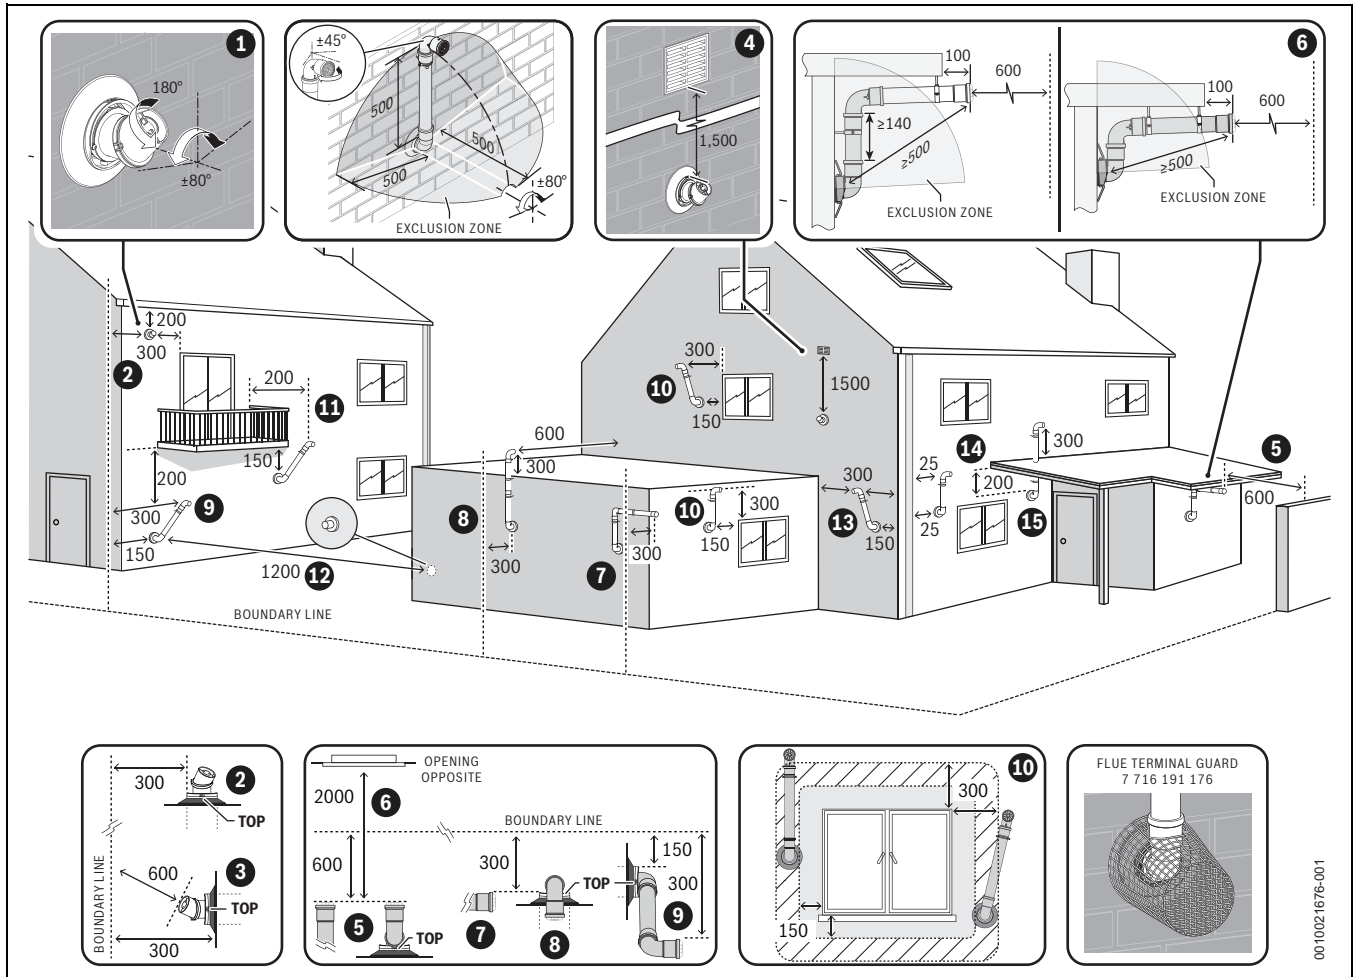

Fig. 27 Plume re-redirect and plume management terminal positions
- ▶ Refer to “Horizontal flue terminal positions” for all concentric flue terminal positions unless the flue position is specified in figure 27 “Plume re-redirect and plume management terminal positions”.
Key to figure 27 - Plume re-direct terminal positions:
Key to figure 27 - Plume management terminal positions: